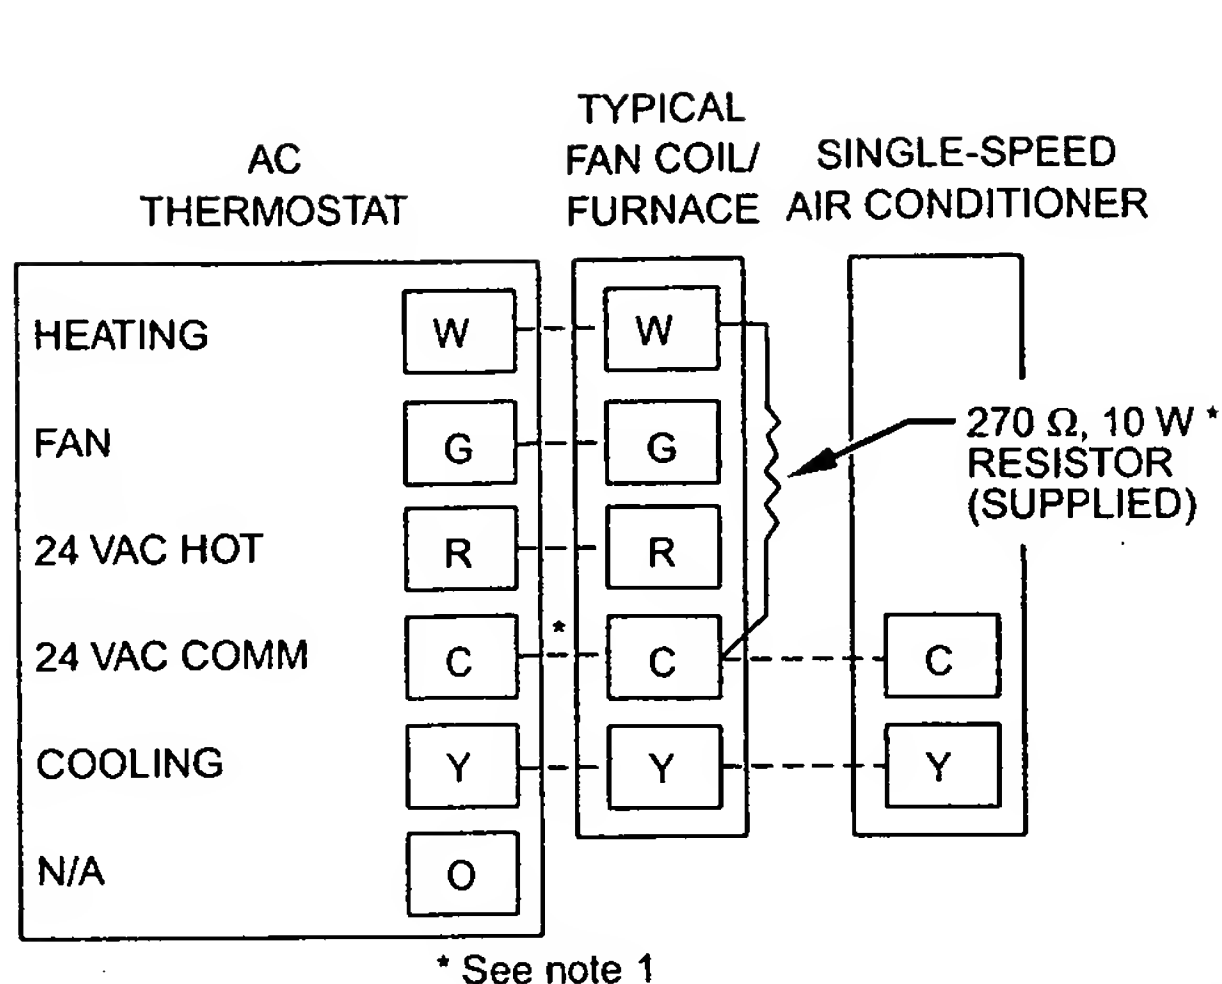

Fig. 2—Typical Air Conditioner
10. If "power stealing" connection is used, be sure to attach 270 ohm resistor at indoor unit. (See Fig. 2, 3, and 5 and notes.)